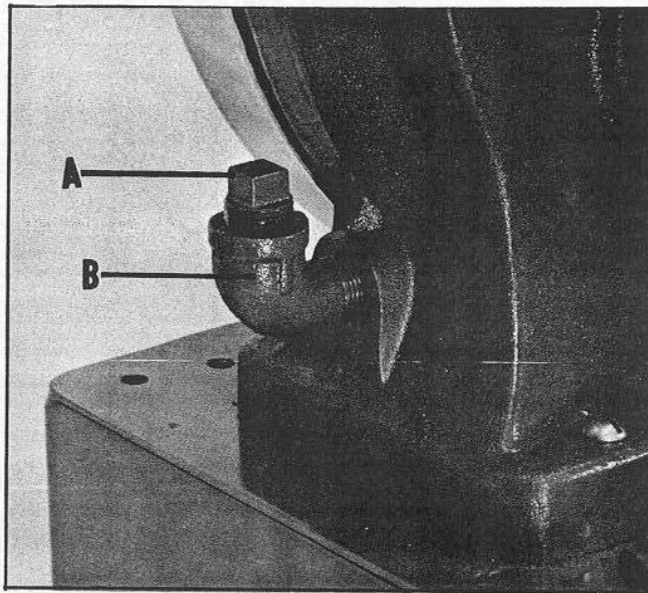

Fig. 24
All models are equipped with a ½ inch street elbow (B) Fig. 24, and a pipe plug (A).
Remove the pipe plug (A) Fig. 24, to check the level of oil in the gear case from time to time and keep it filled to insure proper gear lubrication.